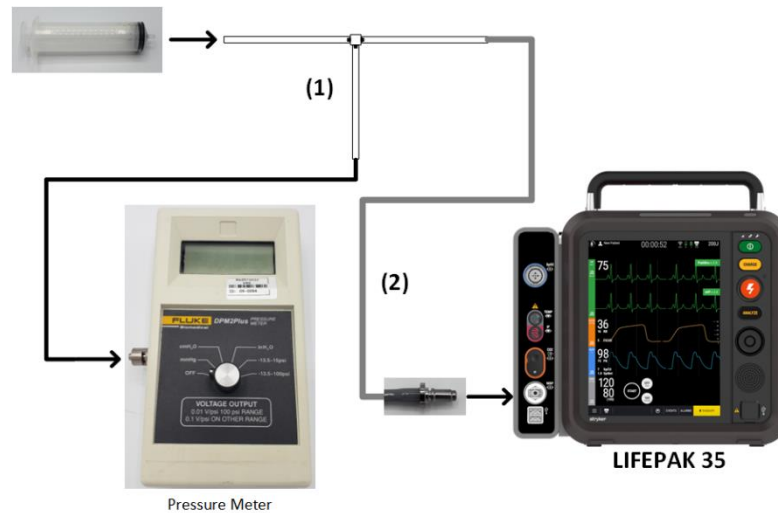

Figure 26
1. Connect the NIBP hose to the NIBP bayonet on the DUT and connect the distal end to the NIBP Leakage test Assembly as shown in the following Figure 26.
In Figure 26: